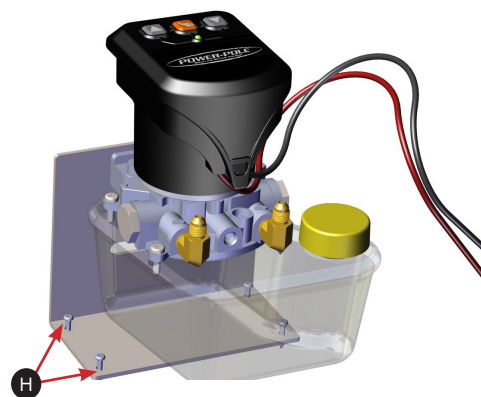

Figure 4
5. Fasten the bracket to the vessel using a #2 Phillips-head screwdriver and the (4) #10 x 3/4" pan head screws **H**. **FIG. 4**